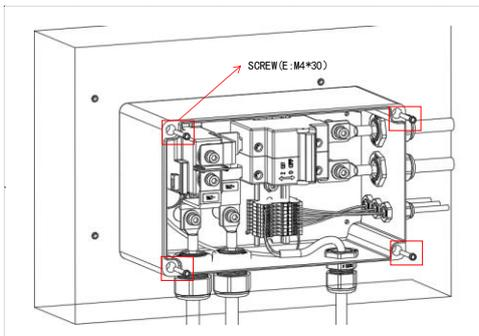

Figure 4-10
2. After the internal wiring of the maintenance control box is connected, it is installed on the wall as a whole. As shown in Figure 4-10, M4×30 tapping screw (E) (a total of 4) is installed in the expansion pipe (F) and tightened.